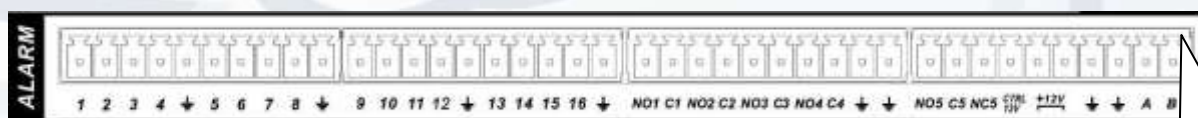

Figure 3-5
1. Connect RS485 A,B on the DVR rear panel (see Figure 3-5).